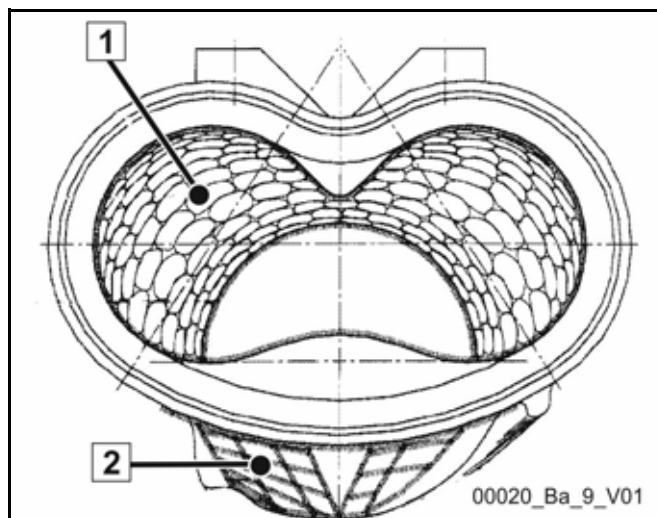

Fig. 318 Armoured swivel head (rock)
- armoured swivel head, see **(Fig. 318)**,
Caption (Fig. 318)